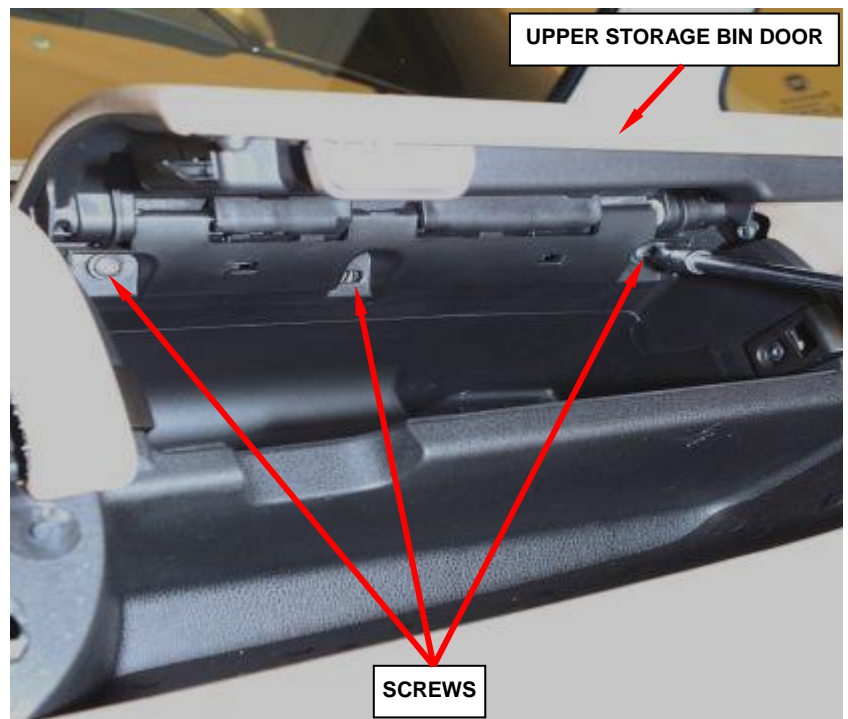

Figure 27 – Upper Storage Bin Door
34. Remove and save the three screws from the upper storage bin door (Figure 27).
89. Position the upper storage bin door to the upper storage bin (Figure 27).
90. Install the three screws into the upper storage bin door and tighten securely (Figure 27).